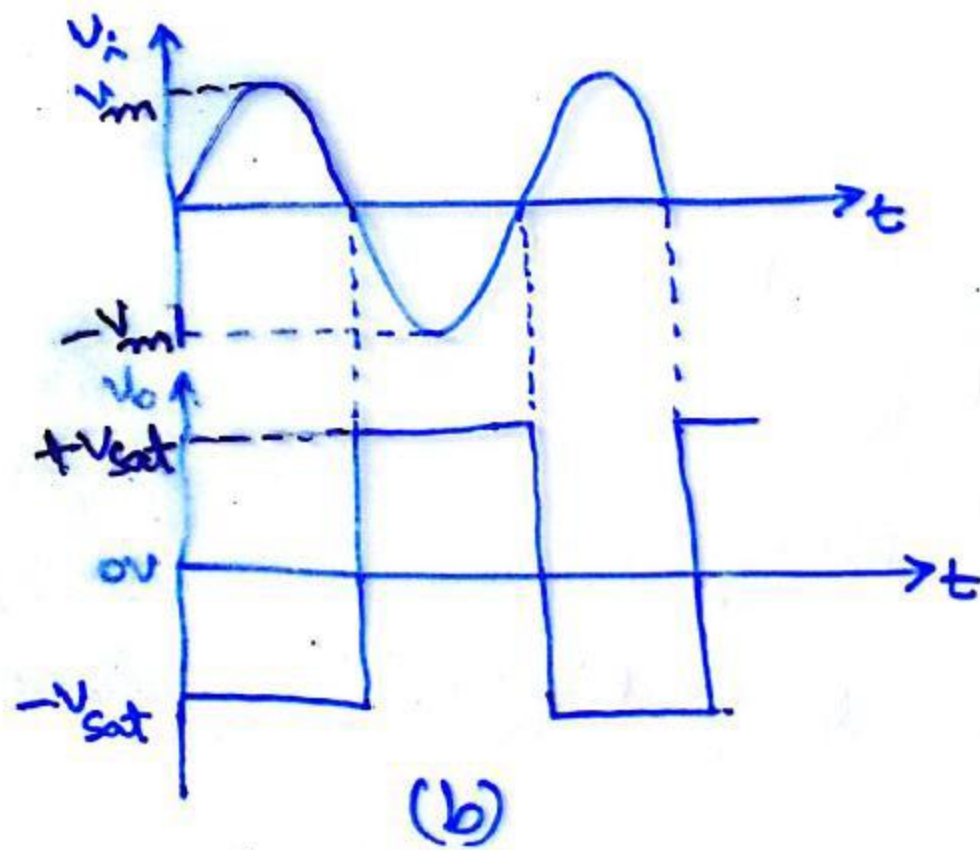

Fig 5-4 (a) Zero crossing detector (b) Input and o/p waveforms
- figure 5.4 (a).
- Figure 5.4 (b).